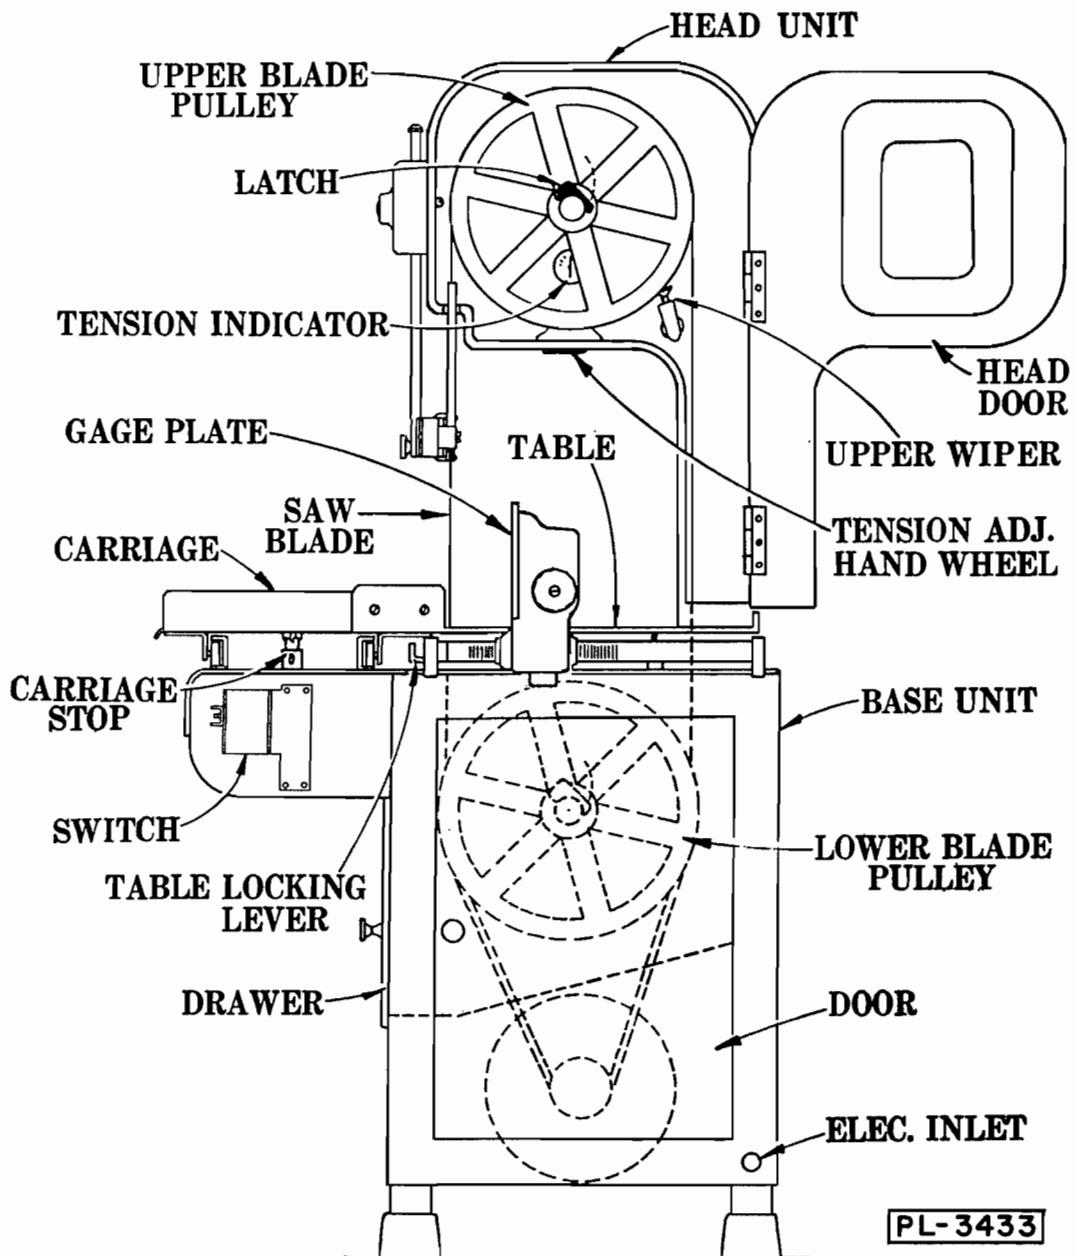
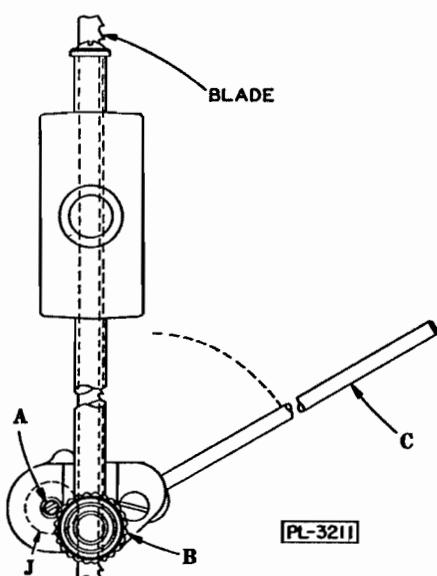
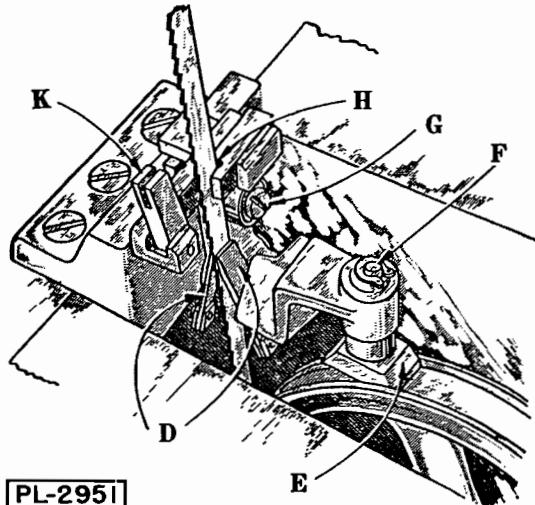
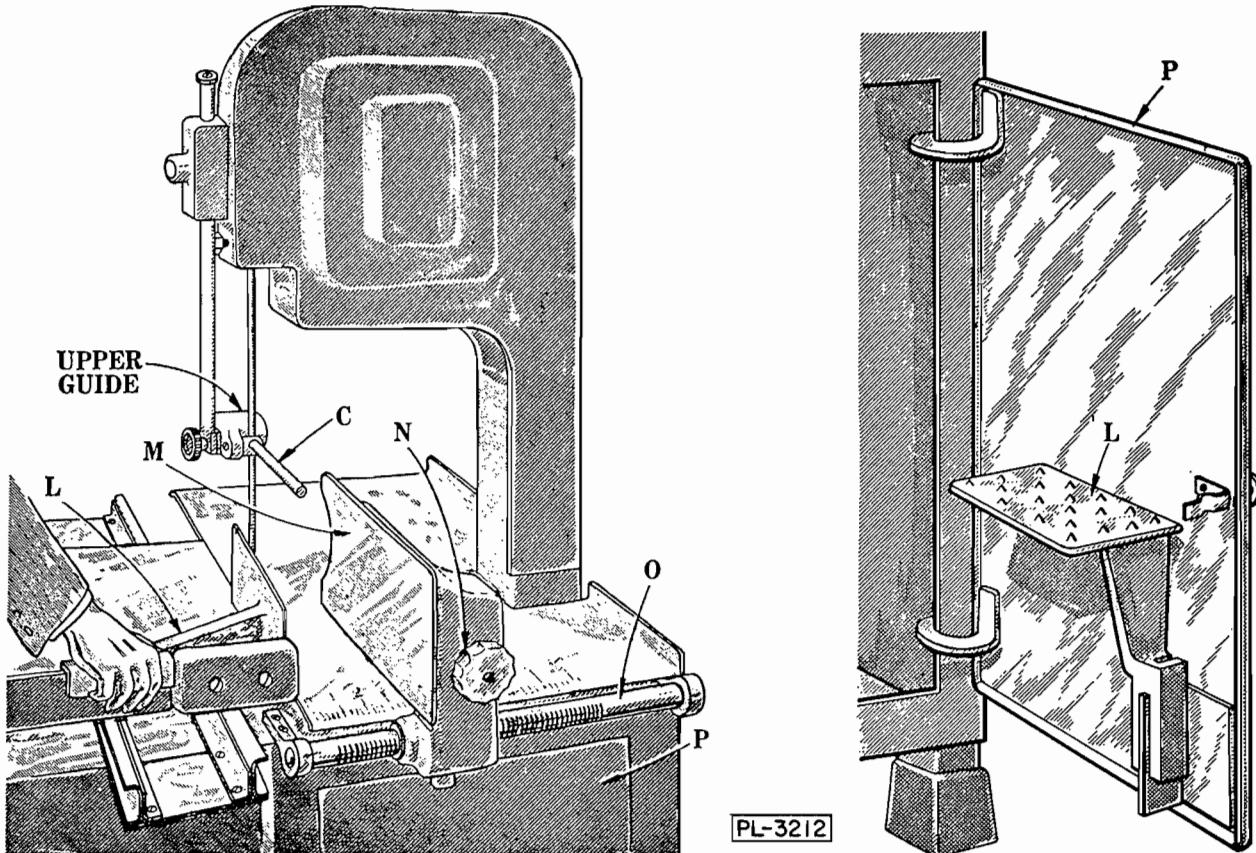

FIGURE 1
FIGURE 3
FIGURE 4
FIGURE 5
(3) Lower the upper blade pulley by giving the tension adjustment hand wheel (fig. 1) a few turns to the left, open door and swing the blade guard C (fig. 3) down to a horizontal position. Lift out lower wiper unit (fig. 4) and place the saw blade over the upper and lower blade pulleys
(fig. 1). The teeth must point to the right and downward when viewed from the front as shown in fig. 6. If they do not point downward, remove the blade, twist inside out and replace it on the saw. Turn the tension adjustment hand wheel (fig. 1) to the right until the tension indicator reads "2". Give the upper pulley a few turns by hand so that the blade centers itself on the pulleys, then turn the tension adjustment handle slowly to the right until the indicator registers between "3" and "4". This is the best operating tension for the blade.
(4) Move the blade guard C (fig. 3) to the vertical position and close head door.
(5) Put in the lower wiper unit (fig. 4). Before sliding it into place swing up the bakelite guard K and see that the saw blade is between the two wipers D and in the guide slot of the steel block H. After sliding the unit into place, close down the bakelite guard K.
(6) To put on the table; swing gage plate (fig. 6) to vertical position, clear of table area. Turn locking lever (fig. 1) to the left. Position the table so that the catches on the underside of the table will engage mating parts on the base. The table can then be secured by turning the table locking lever (fig. 1) to the right. Be sure the support angles on the underside of the table are inside the locating pins of the four table rests on the base.
(7) The carriage may be put on from either side. While rolling it into place hold down the carriage stop (fig. 1). When the stop is released, it will prevent the carriage from rolling off.
Before connecting to the power line, check the data on the name plate (fig. 6) to make sure that the motor is correct for your electric service. The motor and starting switch are connected at the factory. For installation connect power line to switch. Flexible or rigid conduit is recommended. An electric inlet hole (fig. 1) is provided in the base for the conduit. The switch is of the tumbler type.
(1) UPPER GUIDE ASSEMBLY (fig. 3): Keep as low as the size of the work permits.
(2) UPPER GUARD C (fig. 3): Keep in vertical position.
(3) DOORS: Keep all doors closed when the machine is running.
(4) BUTT-END PUSHER L (fig. 5): Use this device as described in paragraph VI and it will be unnecessary to hold your hand near the running saw blade.
(5) GAGE PLATE: The end of the gage plate at M (fig. 5) is shaped to give maximum support and protection at this critical point and, at the same time, facilitate the taking off of slices.
(1) Keep a small amount of grease in the six ball bearing rollers on the carriage.
(2) Apply a few drops of oil occasionally to the gage plate rack O (fig. 5) and work the gage plate assembly back and forth a few times.
(3) IMPORTANT: After each cleaning, use tasteless oil to lubricate the plunger of the Upper Wiper (Fig. 1), the plunger F of the lower wiper E (fig. 4), and the shafts of two lower wipers D (fig. 4). Actuate these wipers to be sure they are lubricated properly, and will operate freely.
(4) Once a year have a Hobart Service Man look over the motor and main bearing carriers.
When cutting slices of uniform thickness, set the gage plate at the desired point on the scale etched on the table. If the gage plate is not needed and interferes with the work, it may be pushed out of the way. Lift the hand knob N (fig. 5) and slide the gage plate on back to the end of rack O (fig. 5). The gage plate may be swung to a vertical position at any setting along the rack without lifting the hand knob.
To slice short ends, use the pusher plate L (fig. 5) to hold the meat against the gage plate. A groove in the pusher slips over and slides along the up-turned edge of the carriage. Hold the pusher with your right hand as shown in fig. 5. Your hand will then always be a safe distance from the saw blade and the stop will
prevent the pusher from going too far. When not using the pusher plate, keep it on the inside of door P where provision has been made for holding it. See illustration at the right in fig. 5.
- (3) Turn table locking lever to left and remove stainless steel table.
- (4) Swing lower saw blade guard K (fig. 4) up and lift out lower wiper assembly. Clean unit thoroughly and LUBRICATE WITH TASTELESS OIL.
- (5) Release blade tension by turning tension
(6) To remove upper guide unit, loosen hand knob B (fig. 3) and remove unit. Clean, LUBRICATE WITH TASTELESS OIL, and replace.
(7) Remove upper and lower pulleys by swinging the pulley retaining latches clear of the shafts. Slide pulleys off. Clean pulleys and oil bore before replacing.
(8) Remove drawer.
- (1) Depress carriage stop and remove stainless steel carriage.
- (2) Rotate gage plate to vertical position.
- (3) Turn table locking lever to left and remove table.
- (4) Lower upper blade pulley by turning tension adjusting hand wheel to left.
- (5) Open head door (fig. 1) and swing upper blade guard to horizontal position. Swing up lower blade guard K (fig.4) and remove blade.